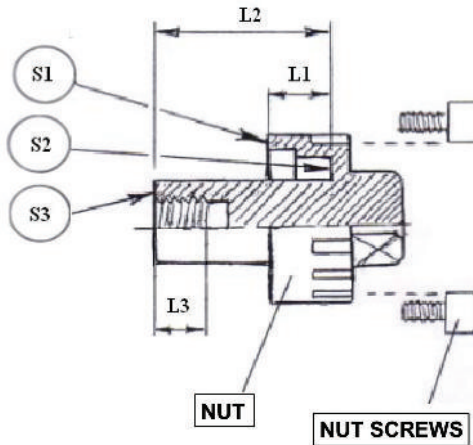

Fig.8
7) INSTRUCTIONS FOR THE PROPER FITTING OF THE LOCKING NUT OF THE PROPELLER FIG.8
Unlike the standard nut, this kind of nut, when it's locked on the motor shaft, must lean ONLY to surfaces S1 and S2 and is secured by 4 devices: 2 threaded pins, and a central screw with a dowel. When you mount the propeller on the motor shaft the same nut checking is necessary as previously described for fig. 8.